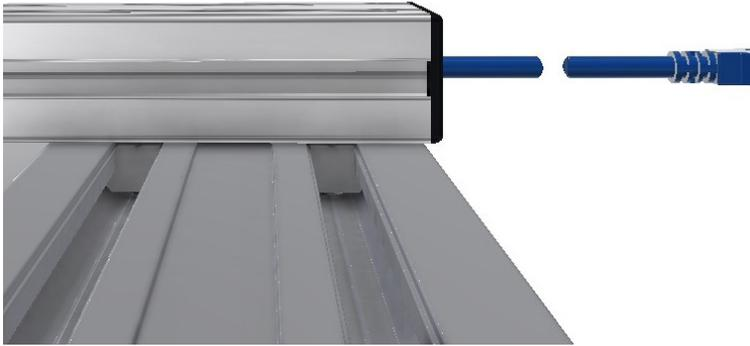

Figure 4
3. While supporting Sodr-Cam arm to maintain horizontal orientation of mounting extrusion and downward pressure against unit extrusion, slide entire Sodr-Cam arm assembly fully (approx. 9/16") toward front of unit. (see Figure 4)